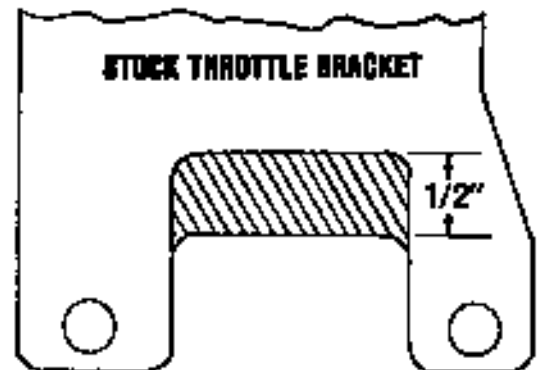

Figure 4—Remove shaded area to provide clearance for throttle or kick-down bracket
1. Due to the design and leg configuration of the Edelbrock manifold, the throttle and kick-down bracket on some model vehicles requires modification to fit. If this condition occurs with your installation, you may purchase the Edelbrock mounting bracket #8036, or modify your bracket as shown in Figure 4.